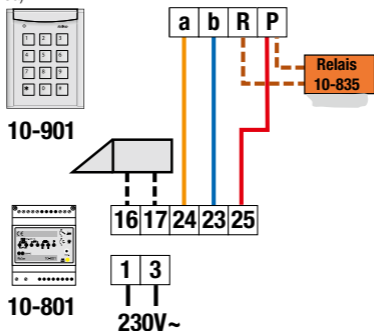

Fig.3a: wiring diagram: keyboard on system power supply
- 4 Connect the wires of the cable to the terminals of the removable connector of the code keyboard (fig.3a and 3b).
If you install the code keyboard with a system power supply (10-801, 10-802 or 10-806), you are guaranteed the highest safety. All communication with the power supply that controls the door lock, is digital communication. If you wish to switch another contact with a certain code, you can add several relays (10-830 or 10-837) to the installation. You can control an additional 24VDC relay (10-835) at the R terminal of the code keyboard (for the cabling, see fig. 3a).